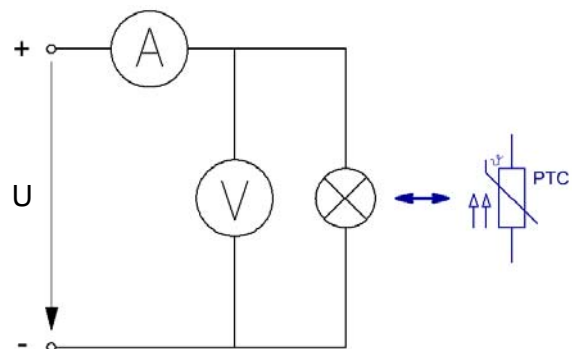

Fig. 3.4.2.1 : Characteristic recording  $I = f(U)$  and  $R = f(U)$
- Assemble the exercise circuit on the Board (Fig. 3.4.2.1).